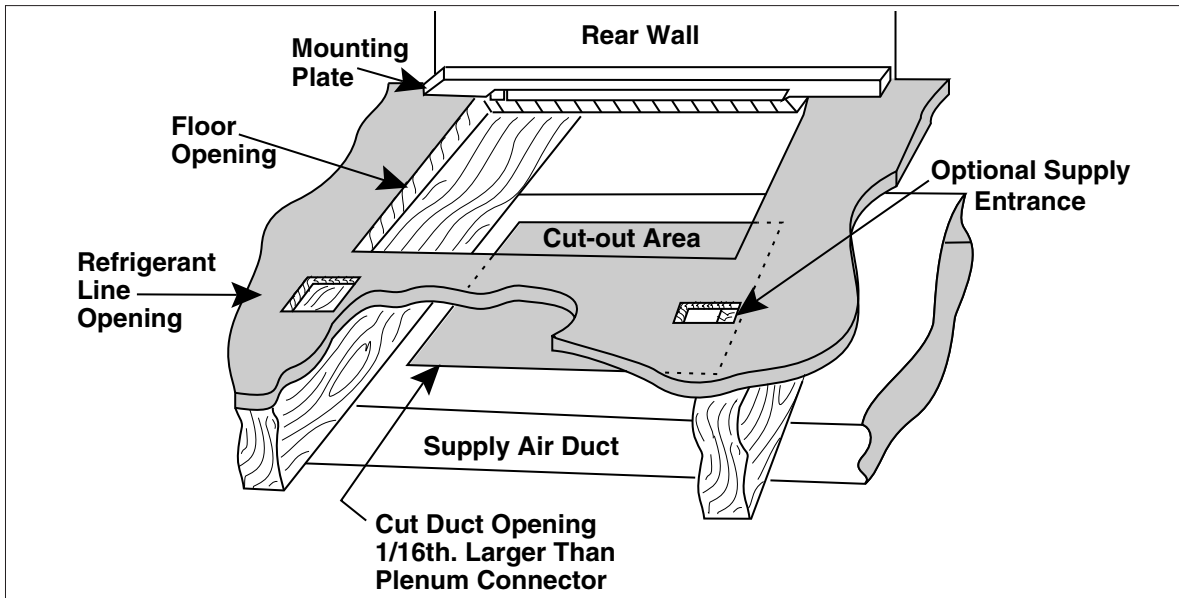

Figure 7. Rear Mounting Plate
3. If using optional rear mounting plate (supplied with duct connector), install it to back edge of floor opening (see Figure 7). Re-install duct connector in floor opening. A shim may be used, if necessary, to ensure the furnace is level.